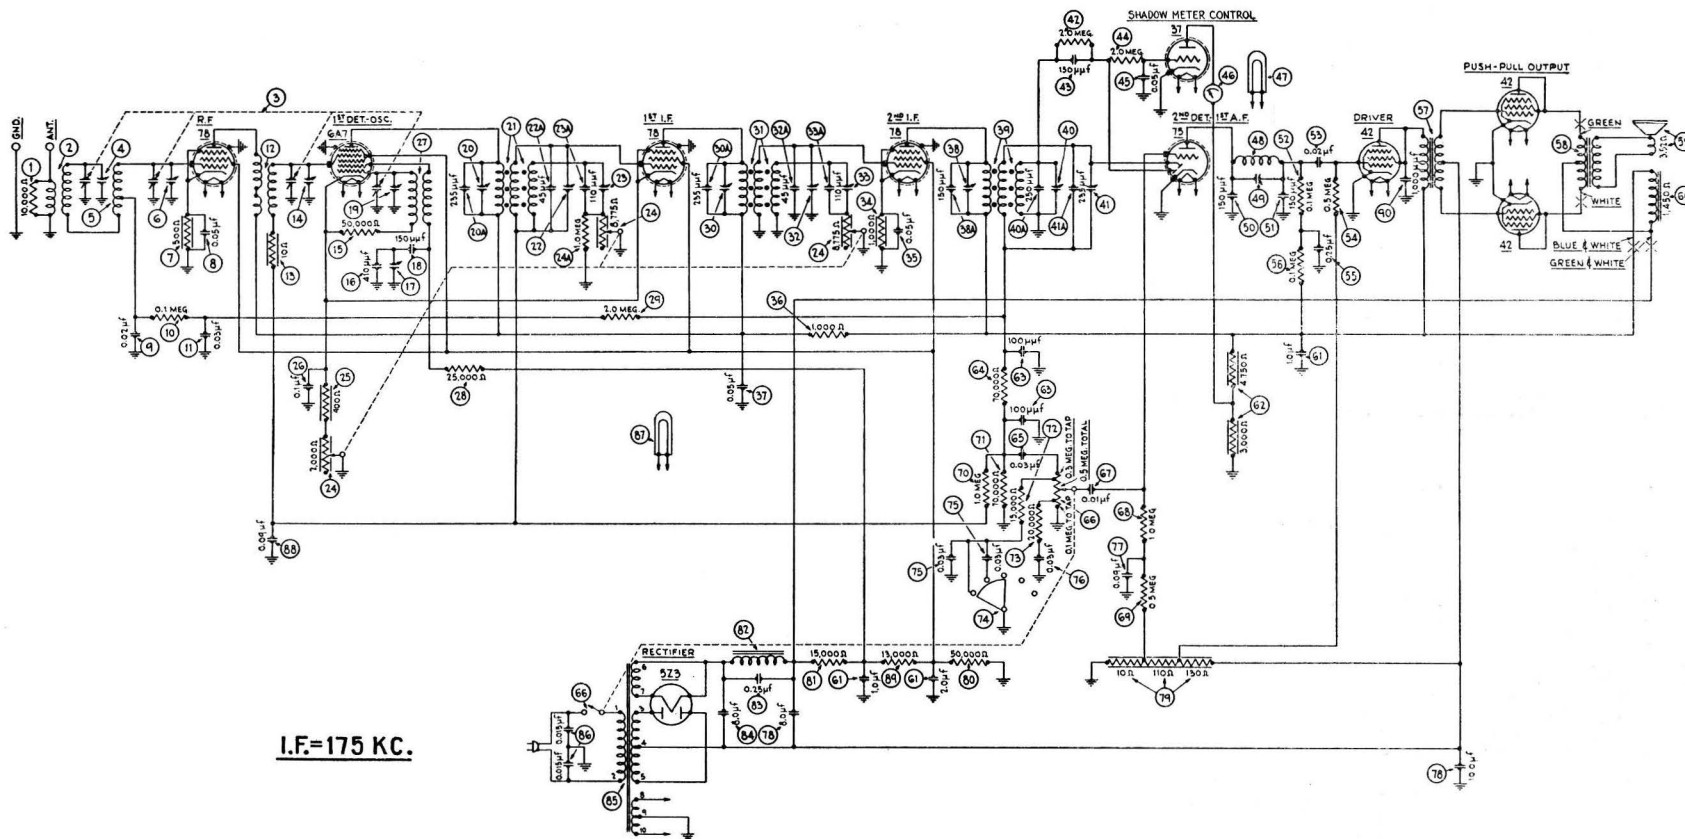

Fig. 2. Schematic Wiring Diagram.
With an unmodulated signal, it is not possible to obtain an indication of output by means of the usual form of output meter. An indirect indication can be obtained, however, through the automatic volume control system by connecting a high resistance voltmeter having a scale reading of 0-5 or 0-10 volts across the R. F. cathode resistor (7), shown in the wiring diagram Fig. 2. This connection can be made conveniently through the use of leads equipped with test clips. With this arrangement, maximum output at the second detector will be indicated by a minimum reading of the meter, and vice versa. In other words, the action will be just the opposite of an output meter used to measure audio frequency voltage at the power output stage. With no signal applied to the receiver, the bias voltage indicated by the voltmeter, will be approximately 3 volts. This voltage will be reduced by the application of a signal to the R. F. or I. F. input circuits.